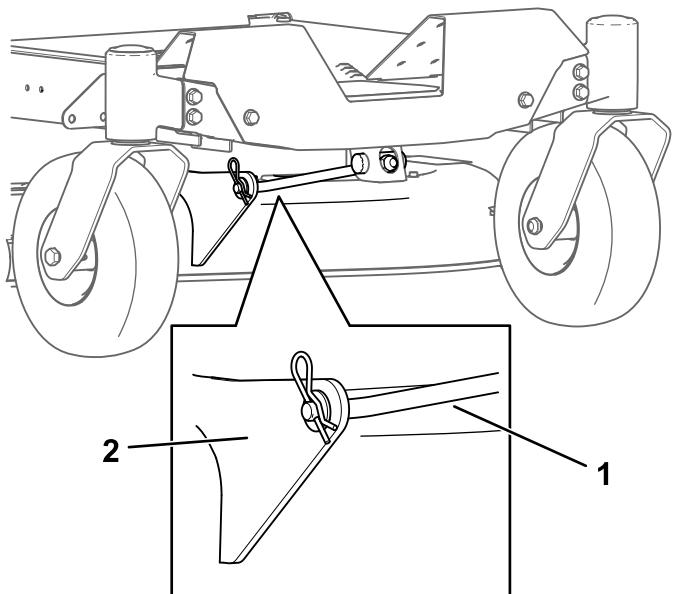

Figure 70
- Remove the hairpin cotter from the front support rod, and remove the rod from the deck bracket (Figure 70).
8. Attach the front support rod to the mower deck with the clevis pin and hairpin cotter (Figure 70).